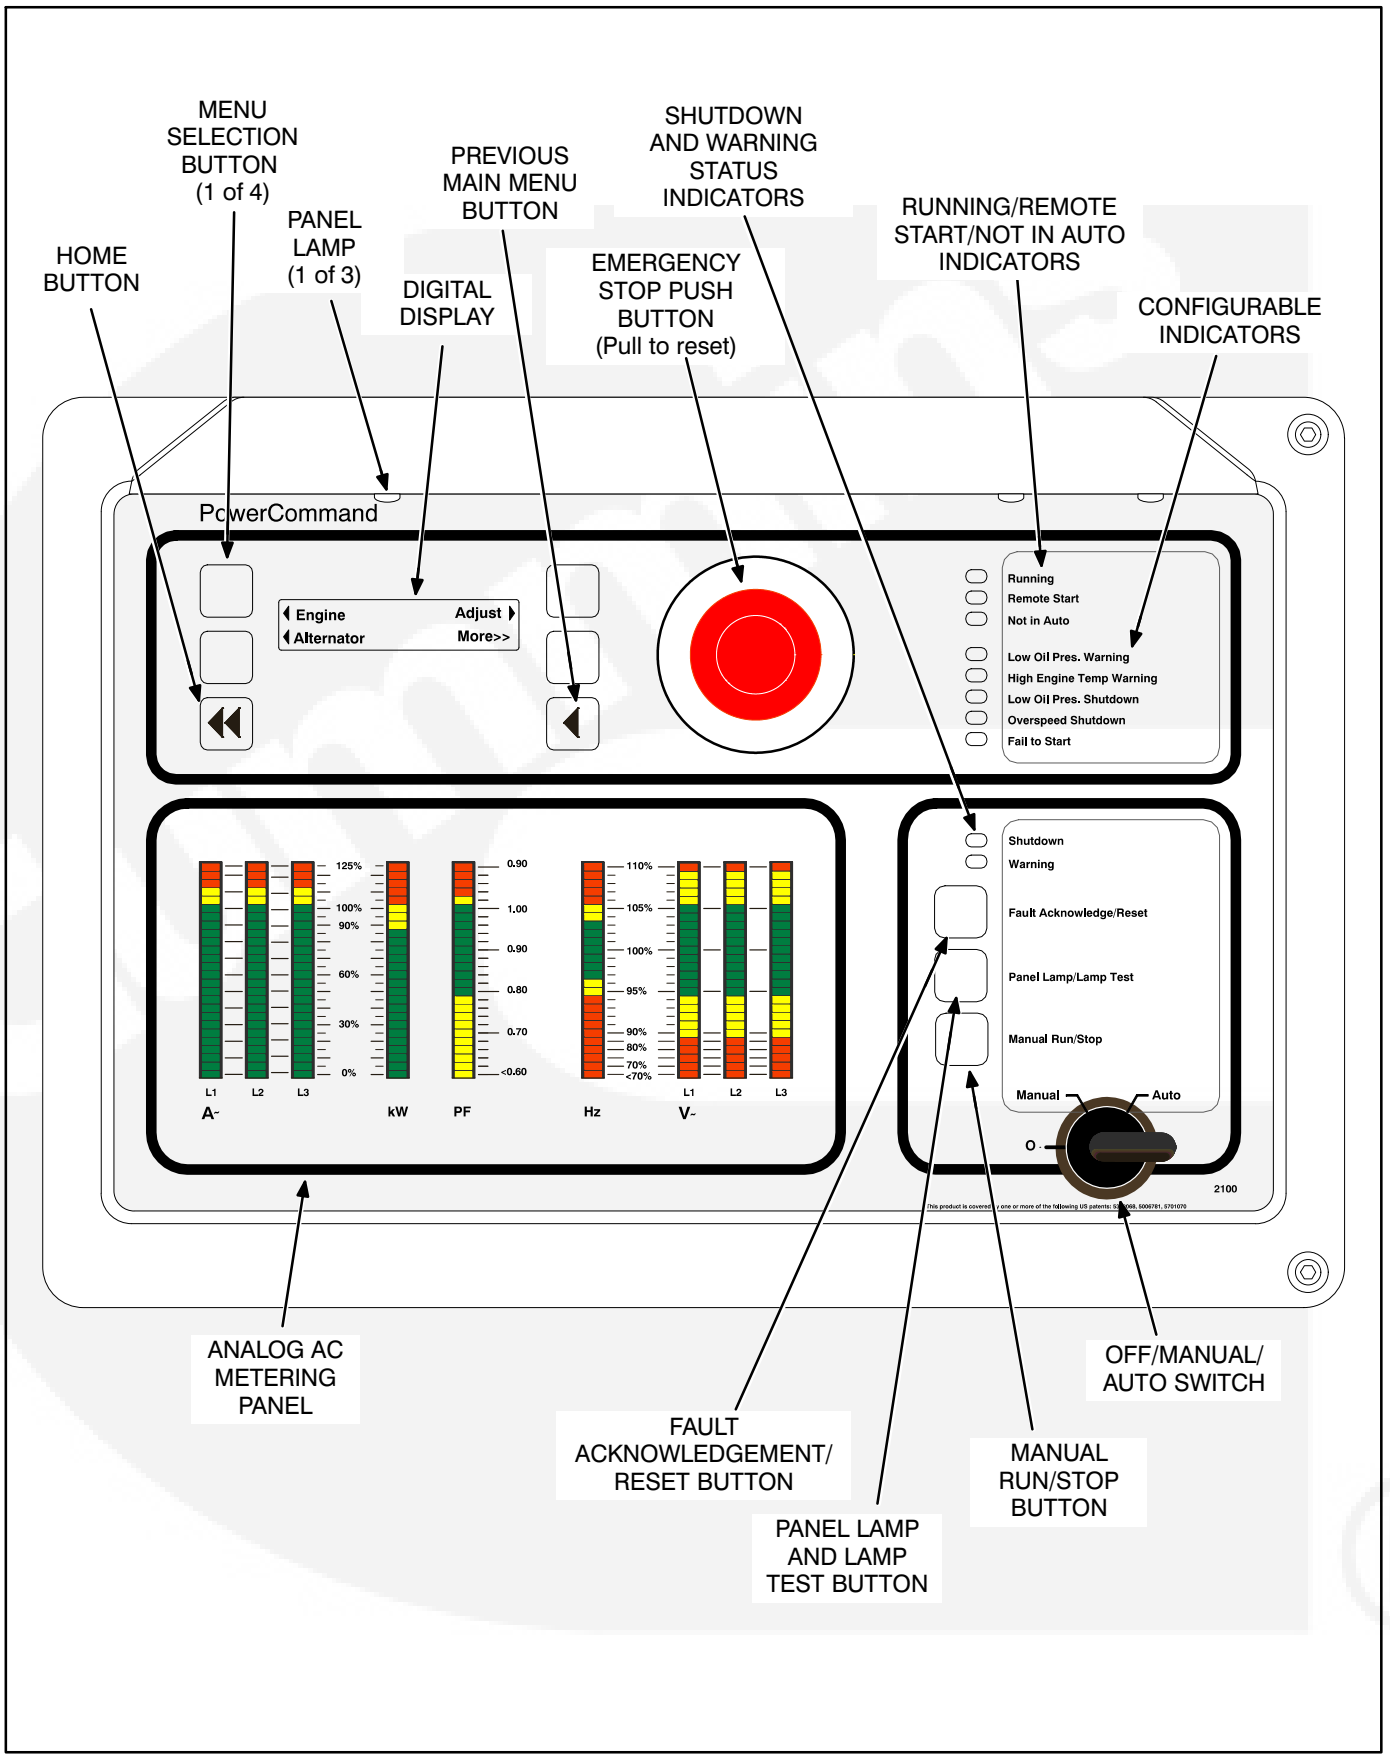

FIGURE 4-1. FRONT PANEL (FULL FEATURED)
**Running Indicator:** This green lamp is lit whenever the generator set is running (Figure 4-1).
**Configurable Indicators:** Defaults for the configurable indicators shown in Figure 4-1 can be changed with the InPower service tool.